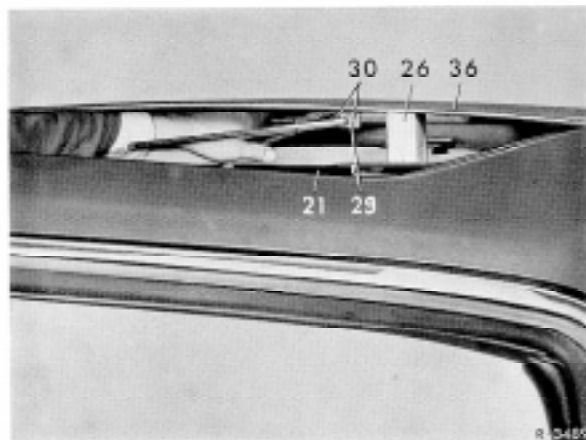

Fig. 2
8 Insert wooden block (26) 6.5 cm high in roof cutout between sliding roof frame (21) and roof panelling (36) (Fig. 2).